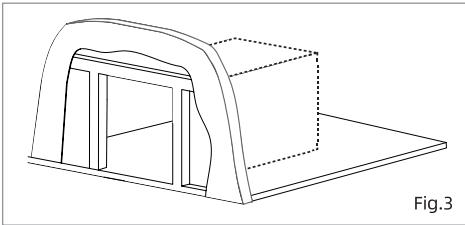

Fig.3
5. Make sure the appliance is supported by a solid floor or platform with adequate weight-bearing capacity. (Fig.3)